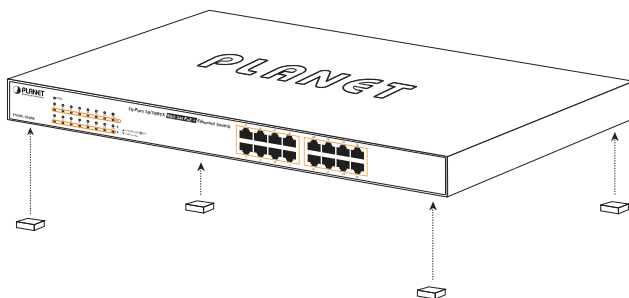

Figure 5-1: Attaching the Rubber Feet to the Switch
Step1: Attach the rubber feet to the recessed areas on the bottom of the Switch, as shown in Figure 5-1.